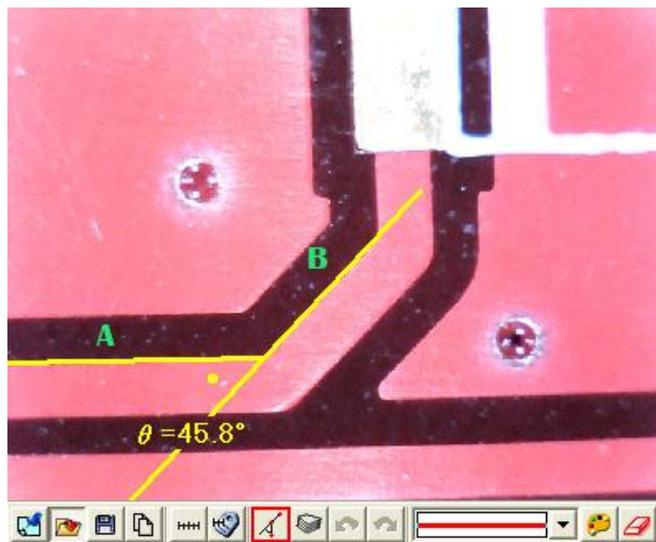
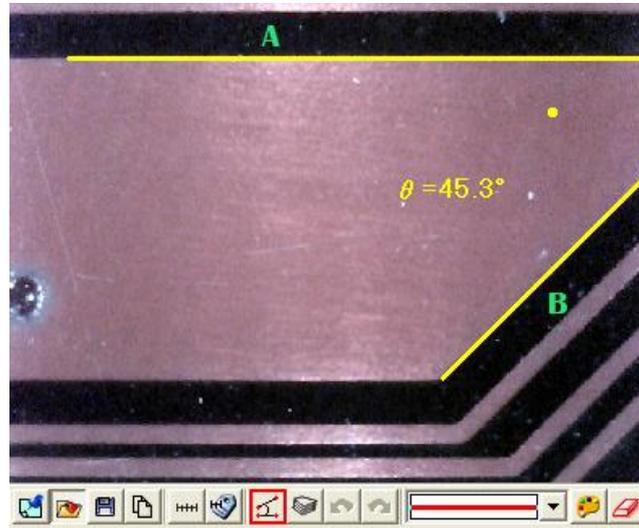

Fig.5-74 3 Points Chamfer
Fig.5-75 4 Points Chamfer
- (8) 3 Points Chamfer: Measure charm and use . Draw first line on the angle (see line A) and press the left mouse button to drag a line on the other side of the angle (See line B) to calculate the chamfer. See Fig.5-74. There is a small dot inside the chamfer and shows 45.8° .
- (9) 4 Points Angle: Use  to measure an angle but only see 2 unparallel lines shown on the object. See Fig.5-74, to draw a 1st line from the object (see line A), and to draw the other unparallel line (see line B), the angle can be automatically calculated. See Fig.5-75. There is a small dot show 45.3° .